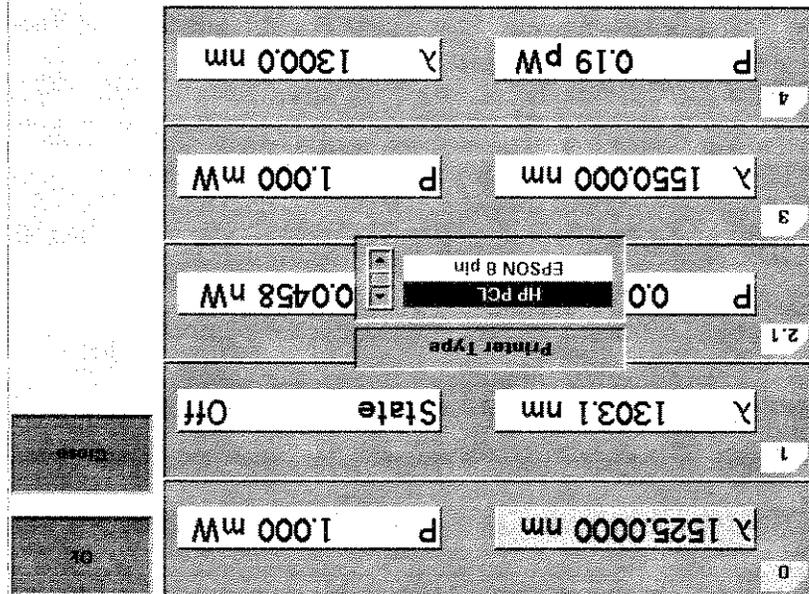

Figure 30 Selecting a Printer Type
- 2 Move to the *Printer Type* menu option and press *Enter*. You see a box, as shown in Figure 30, displaying the following printer types: